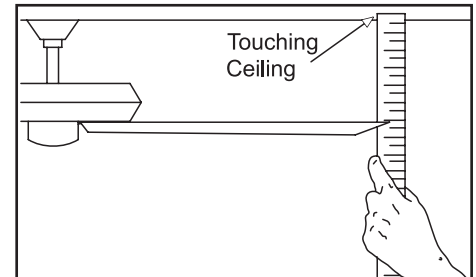

Figure 19
2. Most fan wobble problems are caused when blade levels are unequal. Check this level by selecting a point on the ceiling above the tip of one of the blades. Measure from a point on the center of each blade to the point on the ceiling. Measure this distance as shown in Figure 19. Rotate the fan until the next blade is positioned for measurement. Repeat for each blade. Measurement deviations should be within 1/8". Run the fan for 10 minutes.